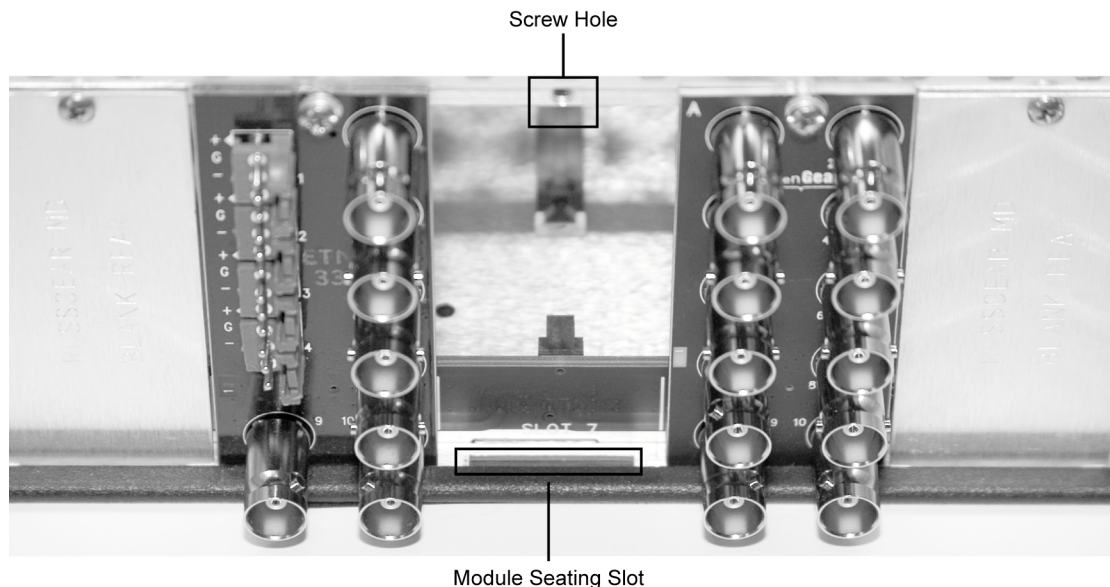

Figure 7. Rear Module Installation
3. As shown in Figure 7, seat the bottom of the DFR-RM-82xx in the seating slot at the base of the frame’s back plane.